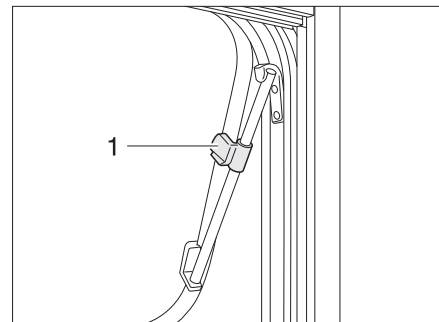

Fig. 39 Hinged window with rotary hinges, open
- Open the hinged window until the required position has been reached and secure in position using the knurled knob (Fig. 39,1).
- Turn the knurled knob (Fig. 39,1) until the latch is released.